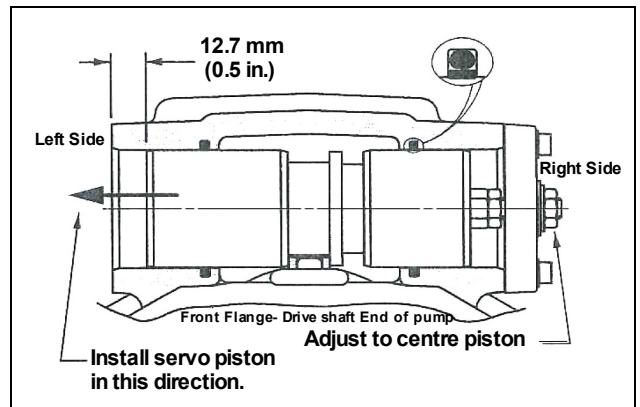

Figure 5-138. Servo Piston Installation
4. Screw the cover plate onto the servo piston assembly. Install new cover plate gasket in place on housing. Install servo piston assembly and cover plate into servo piston bore in right side of housing (as shown in Figure 5-138.) Retain cover plate with four each washers and capscrews. Torque capscrews 40 to 48 in. lbs (4.5 to 5.4 Nm). To obtain neutral, centering the servo piston assembly is required. Measure in from the left side and set servo piston 0.5 in. (12.7 mm) from surface of housing servo bore as shown in Figure 5-138.